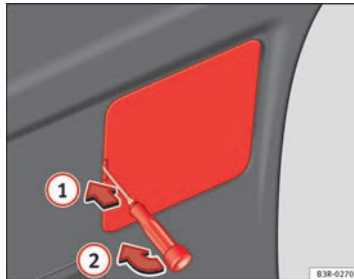

Fig. 233 Remove the cover of the rear lid trim
- Insert the screwdriver into the opening in the cover ⇒ Fig. 233 ① and detach the cover ②.